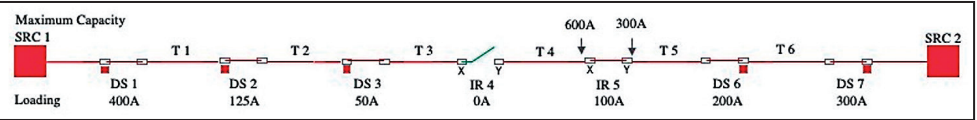

Figure 10. Reducing the maximum capacity for team T5.
- (c) Artificially reduce the capacity of a switch on the side toward its normal source. This side is being restored by this switch when a circuit event occurs. See Figure 10.